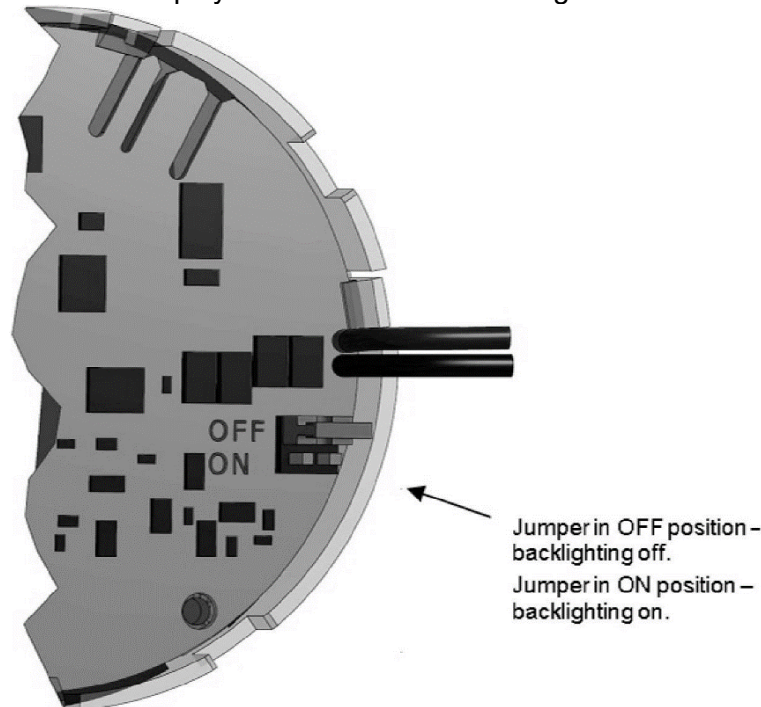

Figure 4. Backlighting jumper view at transmitter electric board (unit display back side)
* Turning on the display backlight in the PCE-28 converters with ALW and ALM type connectors increases the minimum supply voltage for all versions by 3 V. The way to turn the backlight on or off is shown in → Figure 4. Backlighting jumper view at transmitter electric board \(unit display back side\)
Backlight (available for versions with display: ALW or ALM) – local display is equipped in backlight which can be switched on or off depending on needs. Turn on the backlight increases the minimum supply voltage for all version of 3V. Enable or disable the backlight is possible using the jumper after removing the back cover of the display. Enable or disable backlight is shown in Figure 4.